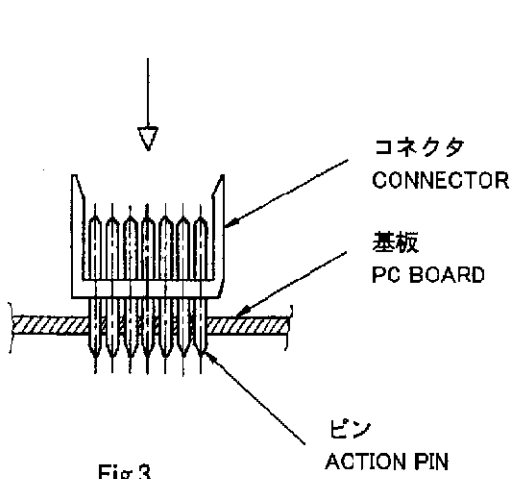

Fig.3
- (2) コネクタをピンのヘッド部がPC基板の挿入位置に合わせる所に置きます。(Fig.3)
- (3) ピンのヘッド部をPC基板に手で押し込みます。ただし、ピンのヘッド部をPC基板にいっぱい入れないで下さい。(Fig.3)
- (2) Position a Connector into a PC (Printed Circuit) Board so that the Pin's head of Connector are properly aligned to the PC Board. (Fig.3)
- (3) Insert the head of Pin into the PC Board by hand, but not fully entered the PC Board. (Fig.3)